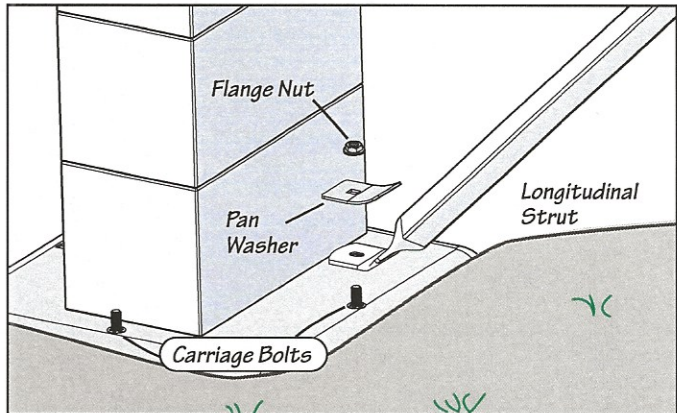

Fig. 6-1
- Slide a pan washer over the carriage bolt, install a flange nut over the carriage bolt as show right in Fig. 6-1